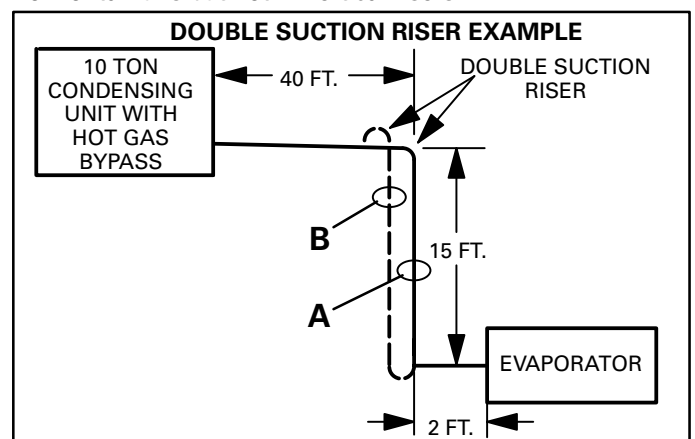

FIGURE 12
**Given:** 10 ton condensing unit with hot gas bypass (run-around type) or mechanical unloaders capable of 65% unloading. Matched evaporator is located below condensing unit. Piping will require 57 (linear) feet of pipe (figure 12). Construction without double suction risers will only require 2 ells.